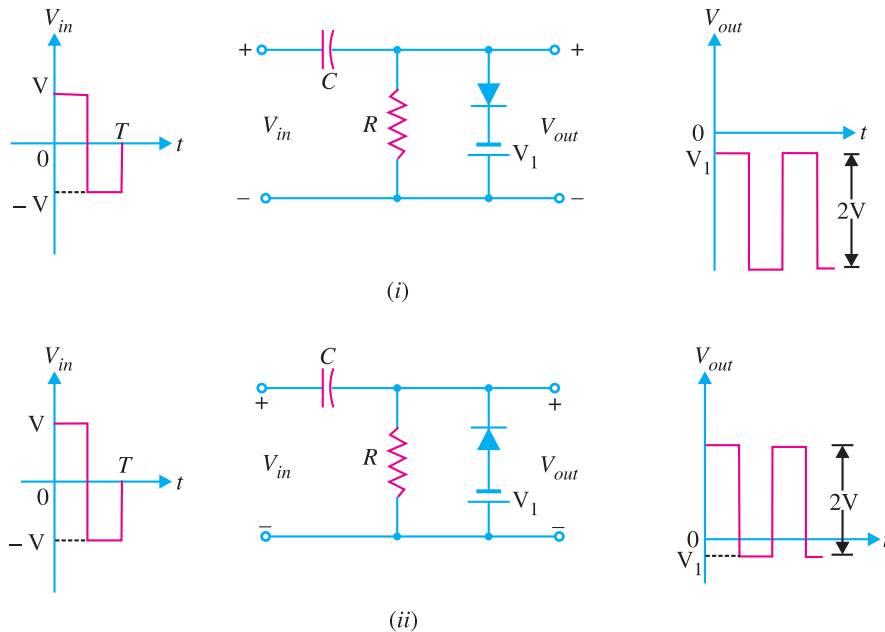

Fig. 18.65
**Example 18.22.** Draw the output voltage waveform for the input wave shown in Fig. 18.65.
**Solution.** Fig. 18.65 (i) shows the output voltage waveform for the input wave to the clamping circuit. This is a negative clamper and pushes the input wave downward so that positive peaks lie  $V_1$  volts below the zero level. Fig. 18.65 (ii) shows the output voltage waveform from a positive clamper. Note that the input waveform is pushed upwards so that negative peaks lie  $V_1$  volts below zero level.